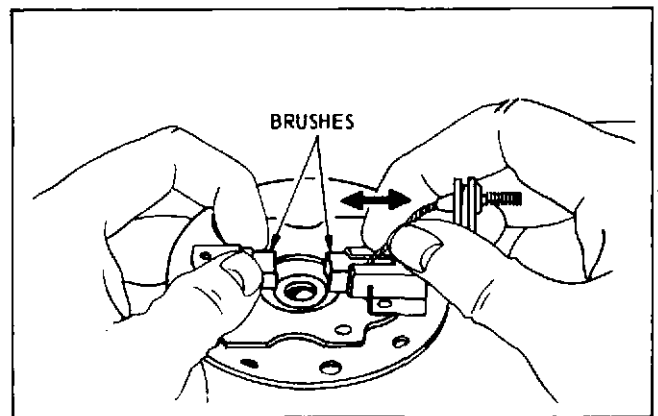

Fig. 58 — Checking Brushes
- Brushes sticking in brush holders or worn brushes. See Fig. 58.
- Brushes sticking, etc. See Fig. 58.
Before removing armature from end cap, check brushes for freedom of movement. If brushes are found to be sticking in their retainers, this must be corrected, or poor starter motor performance will result. Fig. 58. If brushes are worn to a length of 1/4" (6.4 mm) or less, the brushes should be replaced. Check brush springs for proper tension (sufficient force to keep brush in firm contact with commutator).